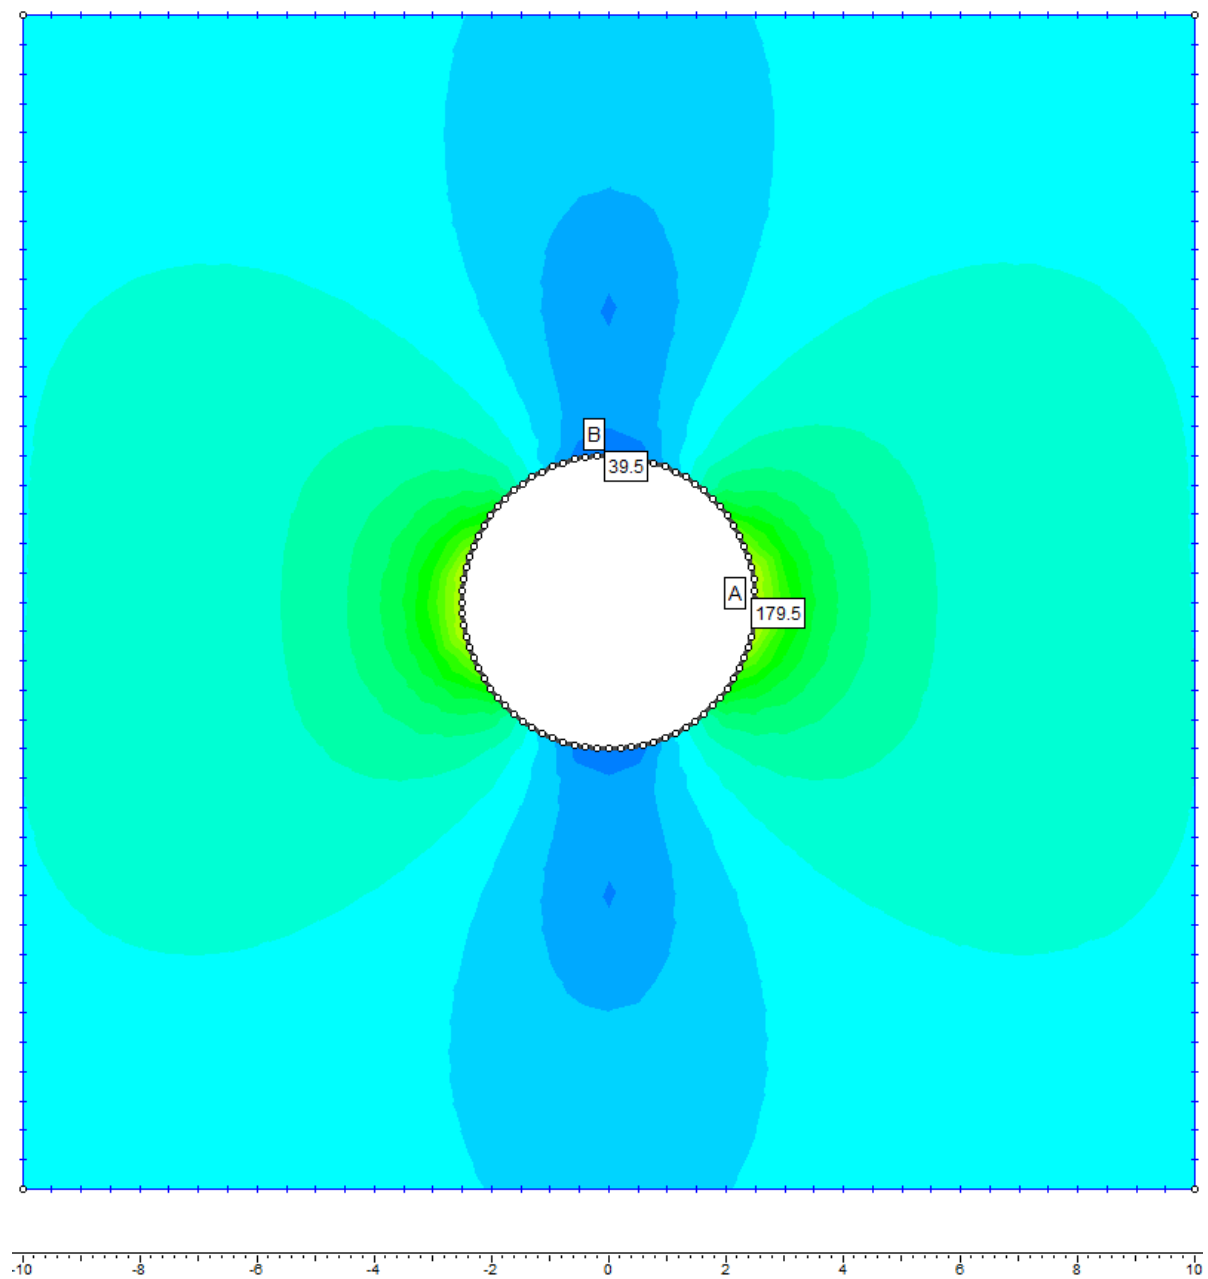

Figure 2 Contour of major principal stress around an excavation.
3.1.6 The plot in figure 2 (refer to appendix 1) was obtained from a 2D boundary element numerical modelling program. The quantity that is contoured is the major principal stress around the tunnel (section view) at a depth of 2800m below surface. The values of the major principal stress in the skin of the excavation on sidewall and on the crown are indicated at point A and B respectively. The principal stress values are in MPa. Compare the value of stresses in the skin as indicated by the modelling with the calculations that you must perform, beginning with point A and thereafter point B. Assume that $g = 9.81 \text{ m/s}^2$, the density of the rock = 2700 kg/m^3 , $k = 0.5$ and $E = 70 \text{ GPa}$. (10)